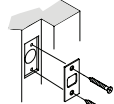

Figure 4e
- Install Strike Plate using two 3/4" (19mm) screws provided (Figure 4e).